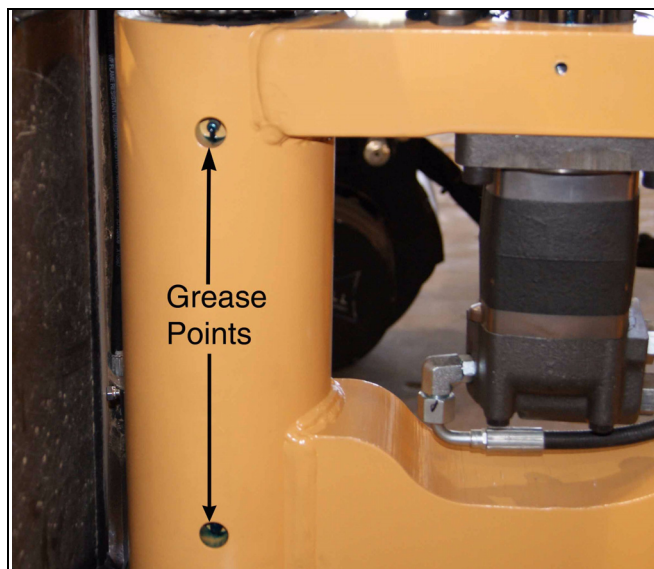

Figure 6-2
4. Grease the upper and lower front rotation bearing fittings until fresh grease is squeezed from the lower bearing. (See Figure 6-2).